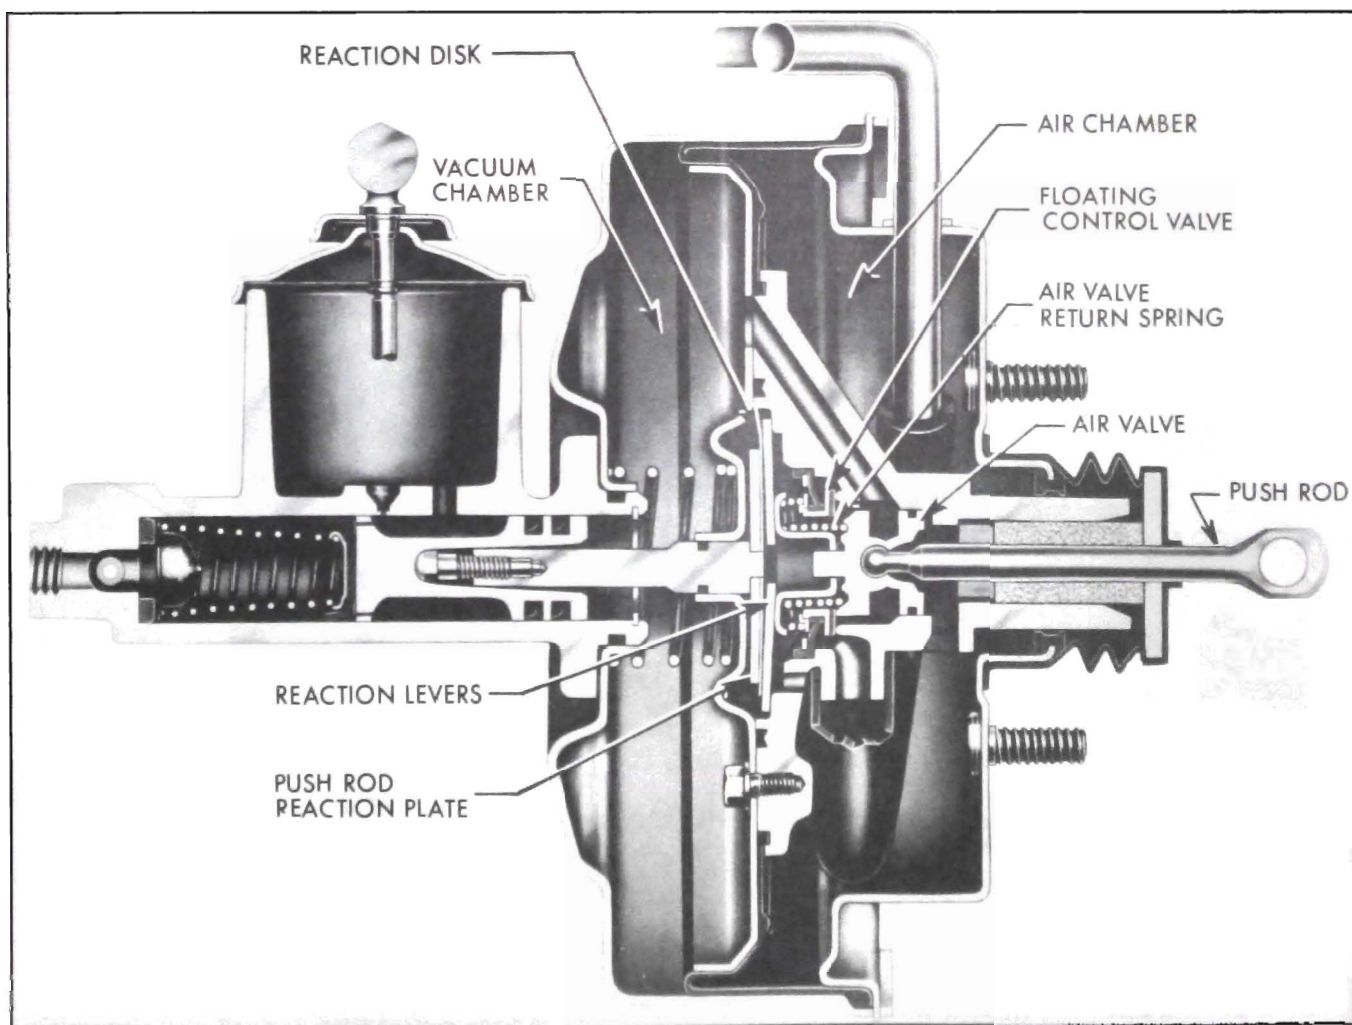

Figure 9-19—Power Brake Unit—Holding
(4) Holding. When the desired brake apply pressure is reached and the brake pedal is held still, the air valve and floating control valve are also held motionless. The power piston, however, continues forward momentarily until its annular seat contacts the floating control valve. See Figure 9-19. At this point, both the air